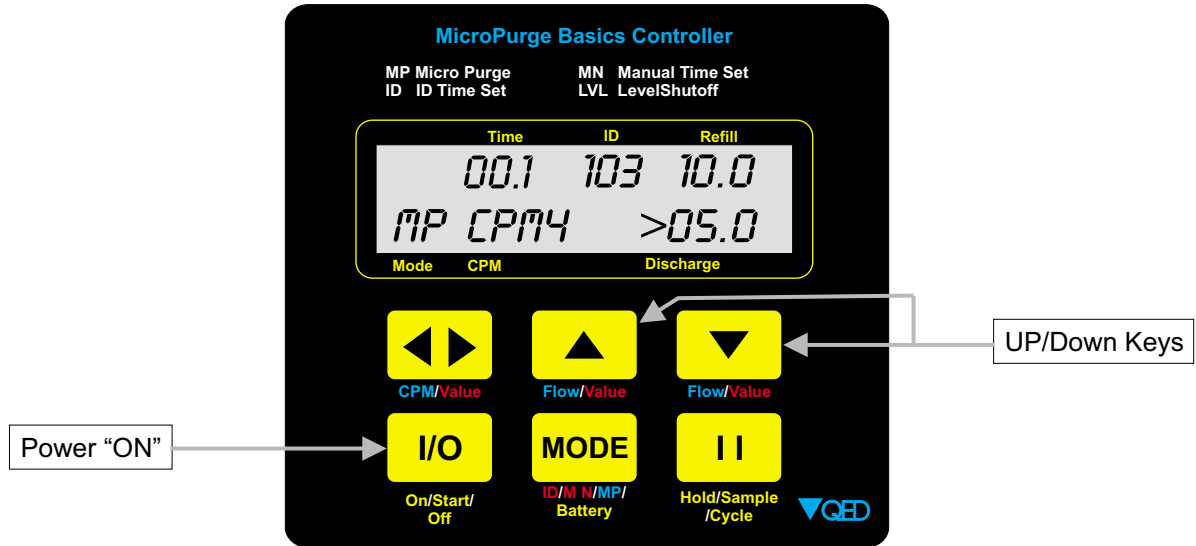

Figure 3
6. Press **basics** controller power "ON"  key (see Figure 3 below).
7. On **basics** controller, select desired Cycles Per Minute (CPM) with  arrow key (default value is 4 CPM, lower CPM for deeper wells, higher CPM possible with shallow wells) (see Figure 3 below).
9. Press **basics** controller "ON"  key (see Figure 3 above) again to start pumping.
11. Press **basics** controller "UP/DOWN" keys (see Figure 3 above) to set the desired purge flow rate.